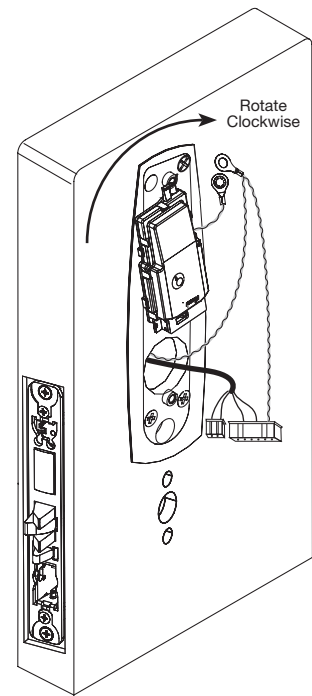

Fig. 11a
- Press piece against door while turning clockwise (Fig. 11a).
- Twist into place, perpendicular with door (Fig. 11a, b).